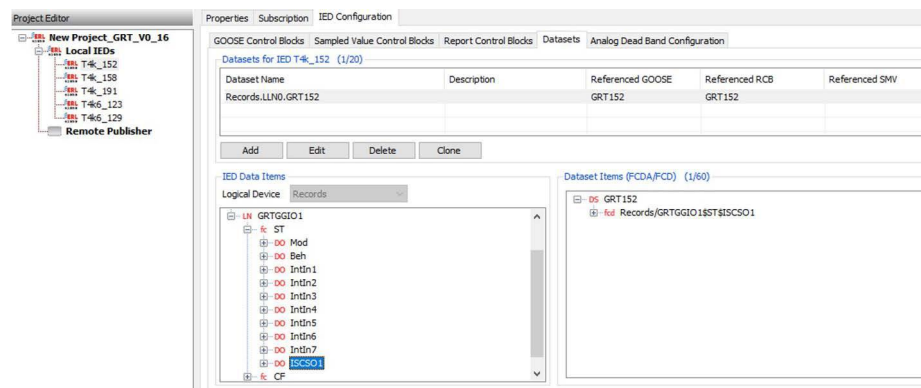

Figure 15.6: Create Dataset to include GRT output
2. Create a GOOSE Control Block to include this dataset, publishing a GOOSE message for the Group Record Trigger (Figure 15.6).